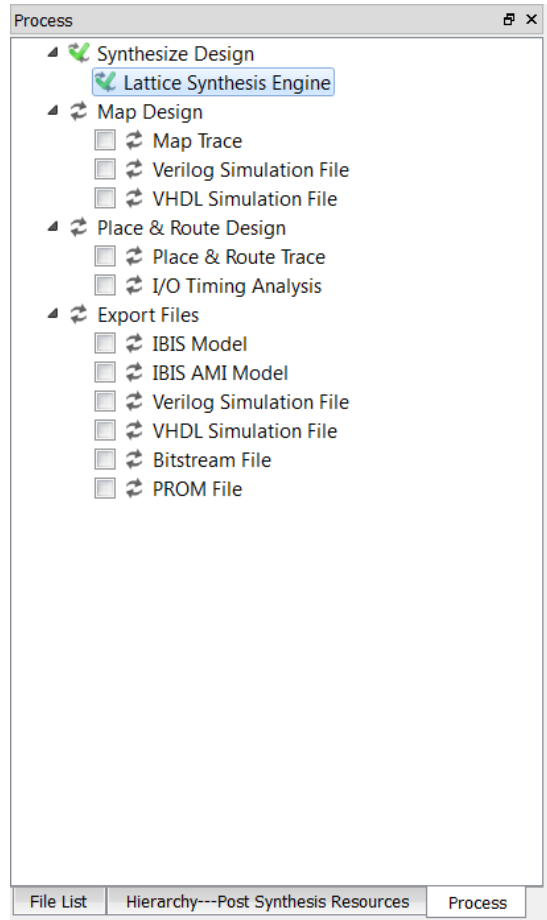

Figure 4.1. Synthesize Design in Process Tab
1. In the **Process** tab, run the **Synthesize Design** step to synthesize the design. Check marks, as shown in Figure 4.1, indicate that the step is successfully completed.